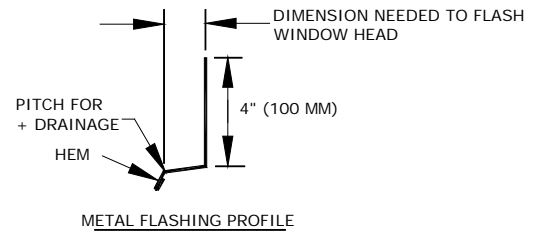
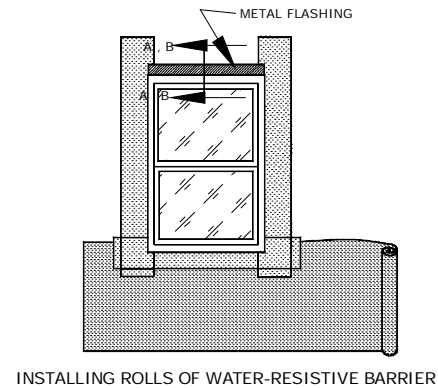
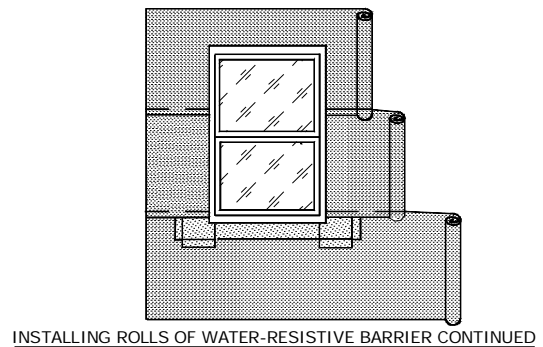

Fig 11.8
Fig 11.9
Fig 11.10
Install corrosion resistant metal head flashing. Length of flashing should be 1 in. (25mm) longer than the width of window or door frame. Rear vertical leg of flashing should be a minimum of 4 in. (101mm) high (Fig. 11.8 and Fig. 11.9).
- Make sure the water resistive barrier is installed under the rough opening sill flashing as per Fig. 11.9. Lap barrier over jamb flashings and over the entire vertical back flange of the head flashing. (Fig. 11.10)